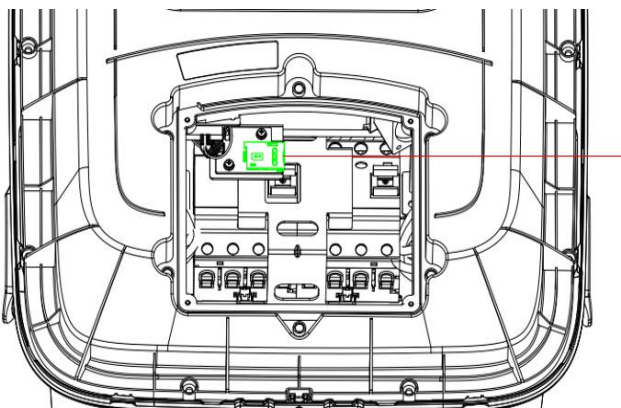

Figure 4-21 Inserting a SIM card
- Insert SIM card (as shown in Figure 4-21).